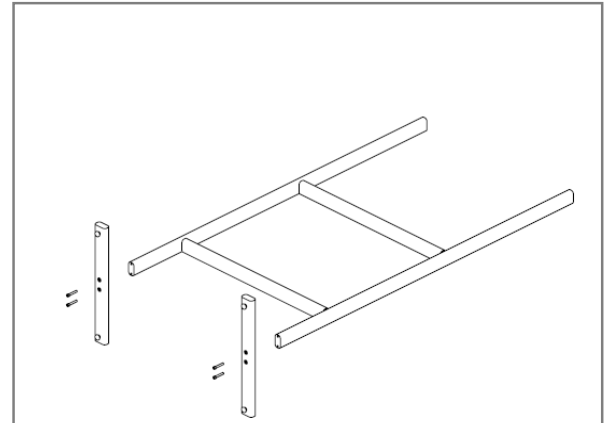

Figure 5
1. Attach the feet to the posts using the socket-head screws (provided), two per foot. **See Figure 5.**